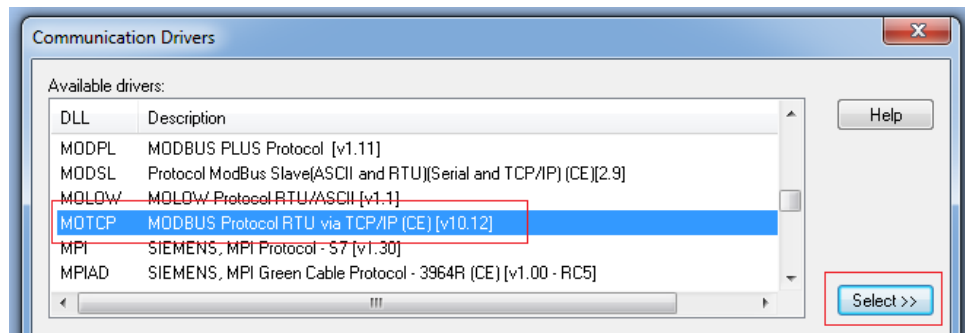

FIGURE 2: SELECTING A DRIVER.
Step 2: A **Communication Drivers** screen pops up. Scroll down to **MOTCP** under the **DLL** column, select it so it is highlighted, and then click the select button (Figure 2). The **MOTCP** driver should now show up under selected drivers. Click the **OK** button to finish.